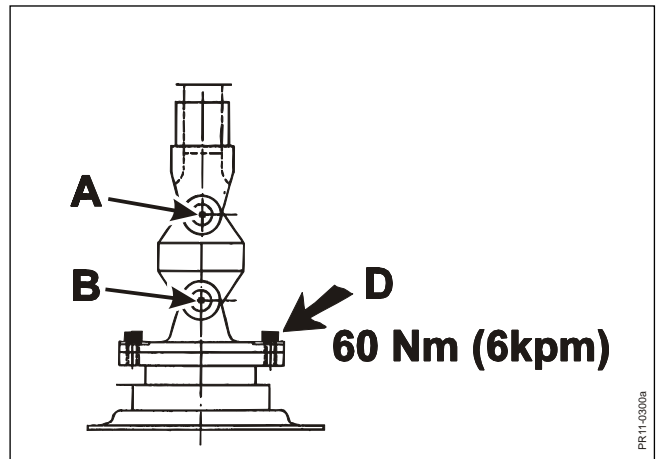

Fig. 5-28
**Fig. 5-28** The PTO drive shaft for the cutter bar has been greased for life. The PTO should run with minimum angle deviation, i.e. the measure difference at **A** and **B** should maximum be 6 mm (+/- 3).